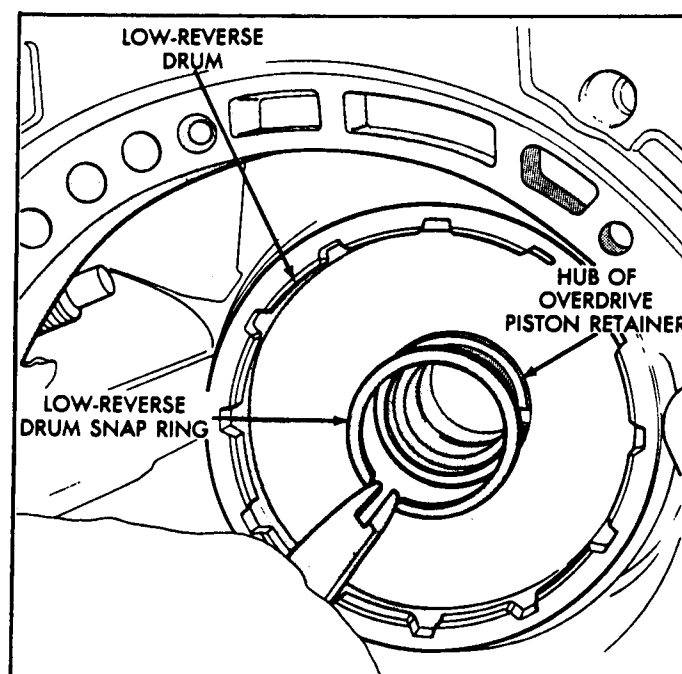

Figure 131
12. Install the snap ring that holds the low/reverse drum to the hub of the O.D. retainer (See Figure 131).